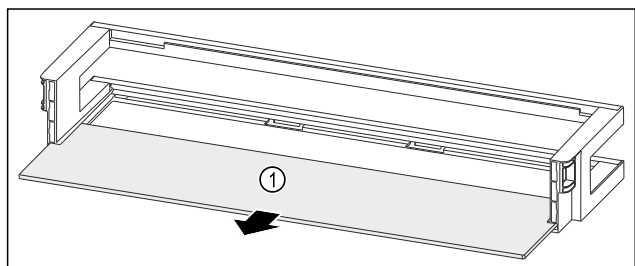

Fig. 257 Door rack with shelf
- ▶ Remove the shelf Fig. 257 (1).